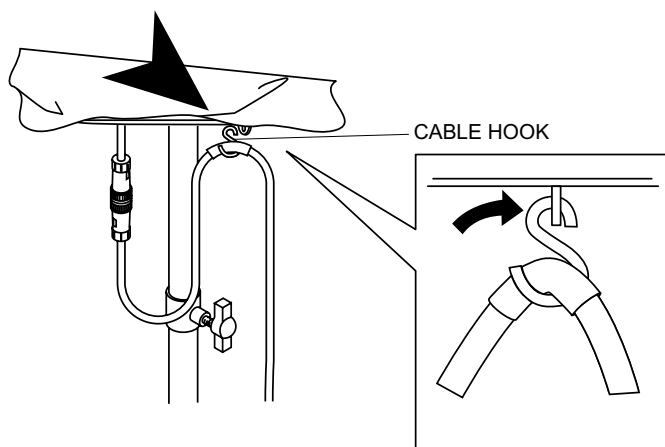

Figure 11. Securing Cable with Hook
10. Secure the power cable by hooking it to the eyelet on the bottom of the balloon as shown in Figure 11.